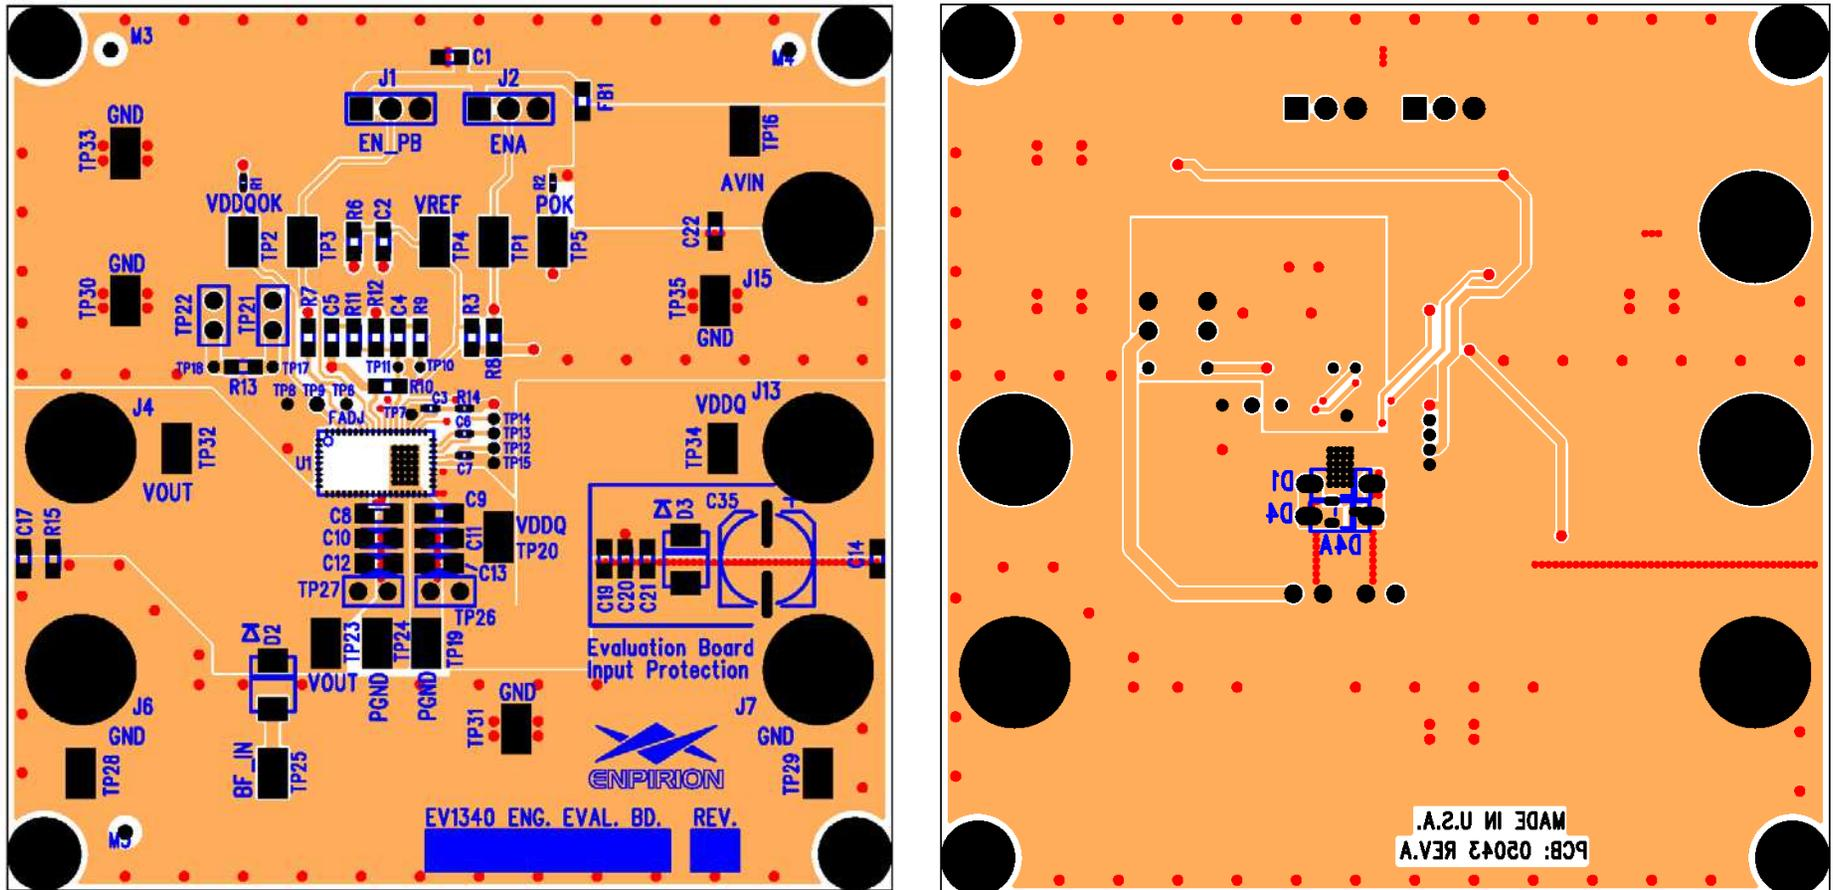

Figure 4: Evaluation Board Top Side and Bottom Side (viewed from the top) Assembly Layers.
**STEP 4:** Connect the VDDQ Power Supply to the input power connectors, VDDQ (J7) and GND (J11) as indicated in Figure 4 and set the power supply to the desired voltage ( $\leq 1.8V$ ). For VDDQ more than 1.5V, the loop compensation values will have to be adjusted according to the datasheet.
**STEP 5:** Connect AVIN power supply to the input connectors AVIN (J12) and GND (J11) as indicated in Figure 4 and set the power supply to the desired voltage ( $\leq 3.6V$ ).
**STEP 6:** Connect the load to the output connectors VOUT (J6) and GND (J10), as indicated in Figure 4.